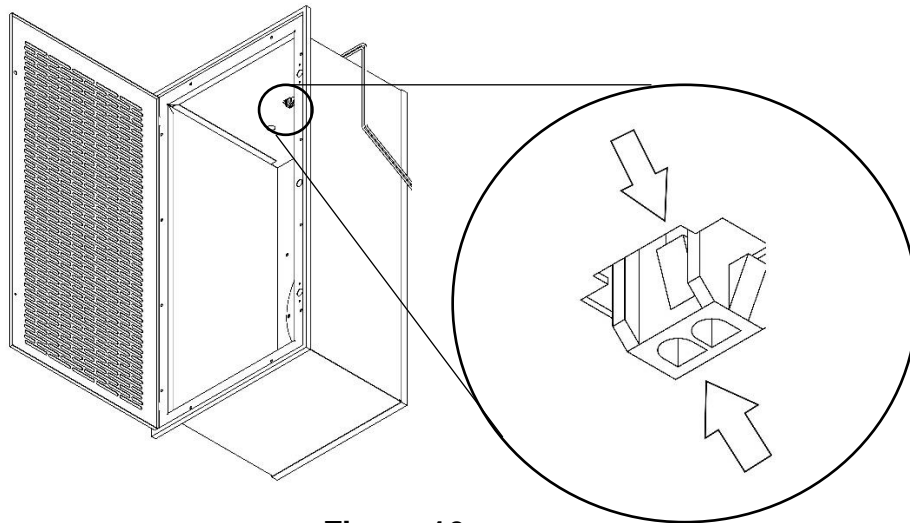

Figure 16
8.) Remove 2 pin MOLEX connector attached to insert. Apply a force using a flat head screws driver to pop out the back side first. Then, pop out the front side using the same technique. See Figure 16. This will provide better maneuverability for the next steps.
- 20.) Reinsert 2 pin MOLEX connector into the top of the housing Insert. The connector will snap when it is in place. See Figure 16.